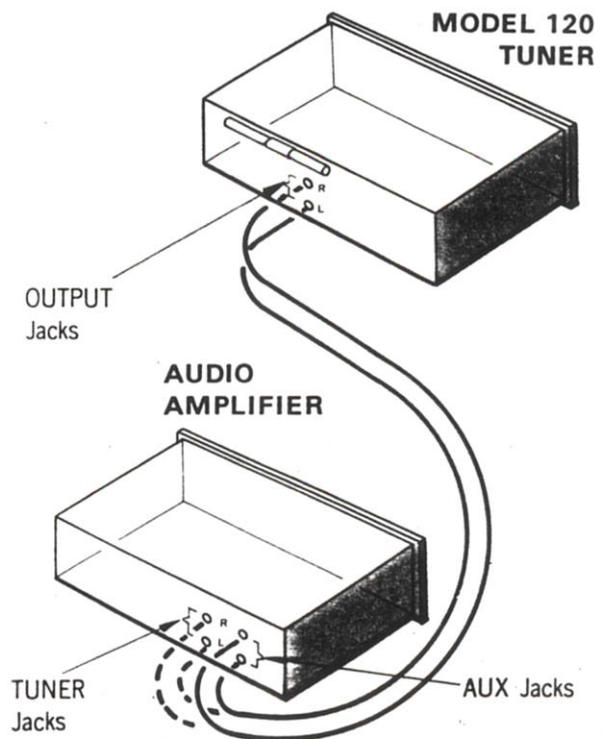

Figure 2. Connection of Tuner and Amplifier
Connect "**R**" **OUTPUT** of the Model 120 to the "**R**" input of **AUX** or **TUNER** jacks of your audio amplifier. Next, connect "**L**" **OUTPUT** of the Model 120 to the "**L**" jack of your amplifier as shown in Figure 2.
- Step 2. Connect both signal **OUTPUTS** to the **TUNER** (or **AUX**) input jacks of your amplifier as shown in Figure 2.